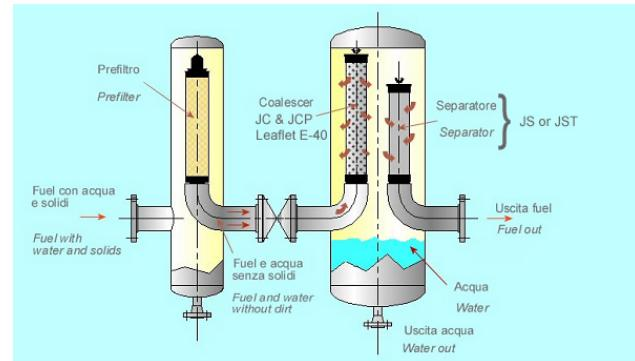

Fig.3
*They are equipments which have the ability to separate a liquid (called dispersed phase) from another (called liquid media). The separation is practised by many industries either as a processing stage or a means of protecting the environment from disliked effluent. For well understanding the operating mode of these equipments see leaflet F-27. Fig. 3 shows the cartridges JS & JST in a Liquid-Liquid separation system.*